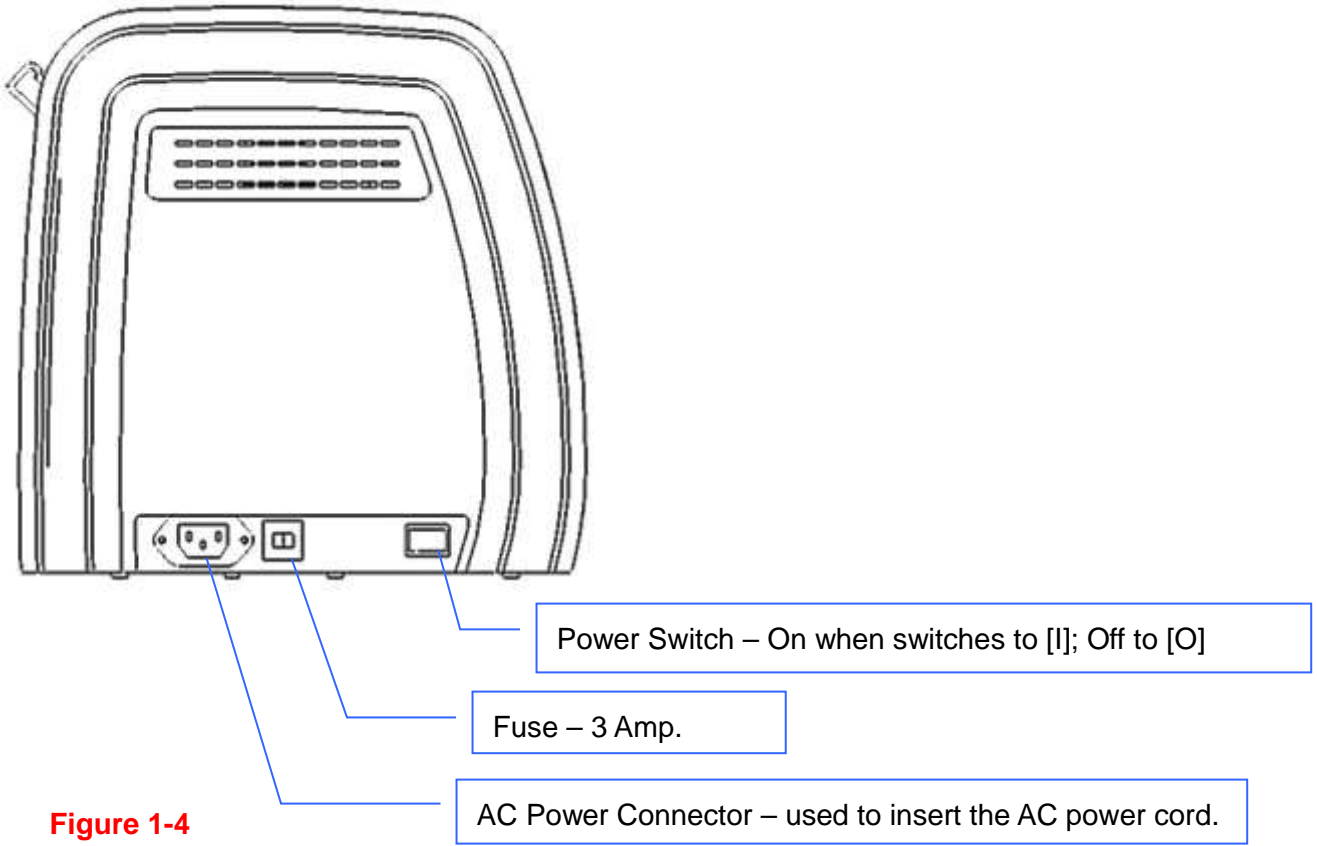

Figure 1-4
1.4 4 The Left-hand Side (Figure 1-4)